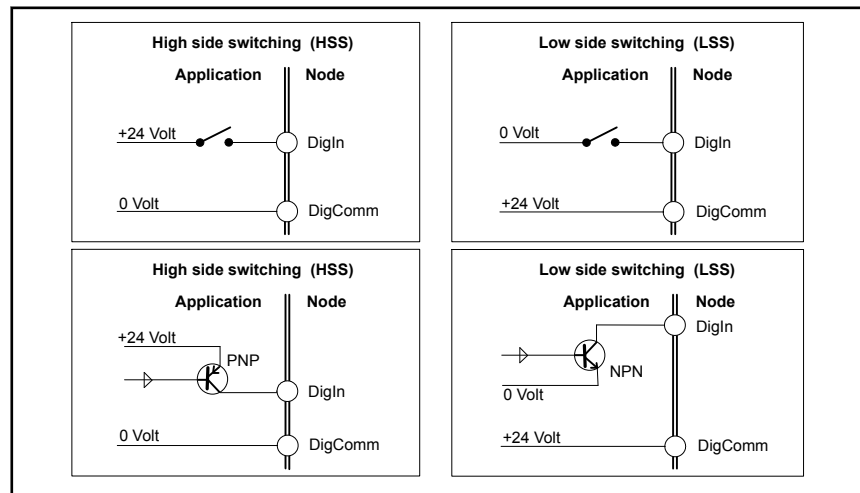
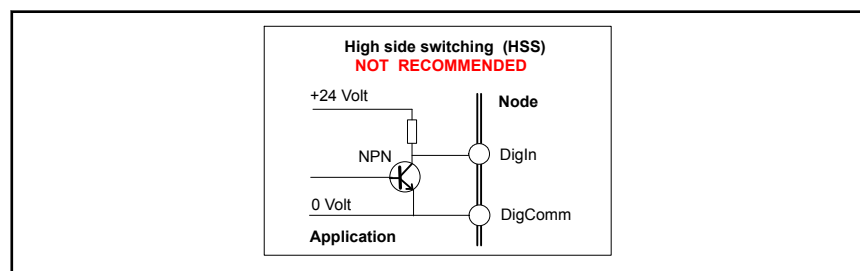

Fig. 10-10: HSS and LSS
Fig. 10-11: HSS with an NPN output transistor
5. Keep in mind that these digital inputs do not have a high impedance. If the application uses an open collector output to connect to these digital inputs, use an NPN transistor for low side switching and use a PNP transistor for high side switching, see fig. 10-10 "HSS and LSS" on page 116 It is not recommended to use an NPN transistor output in combination with high side switching, as shown in fig. 10-11 "HSS with an NPN output transistor" on page 116.